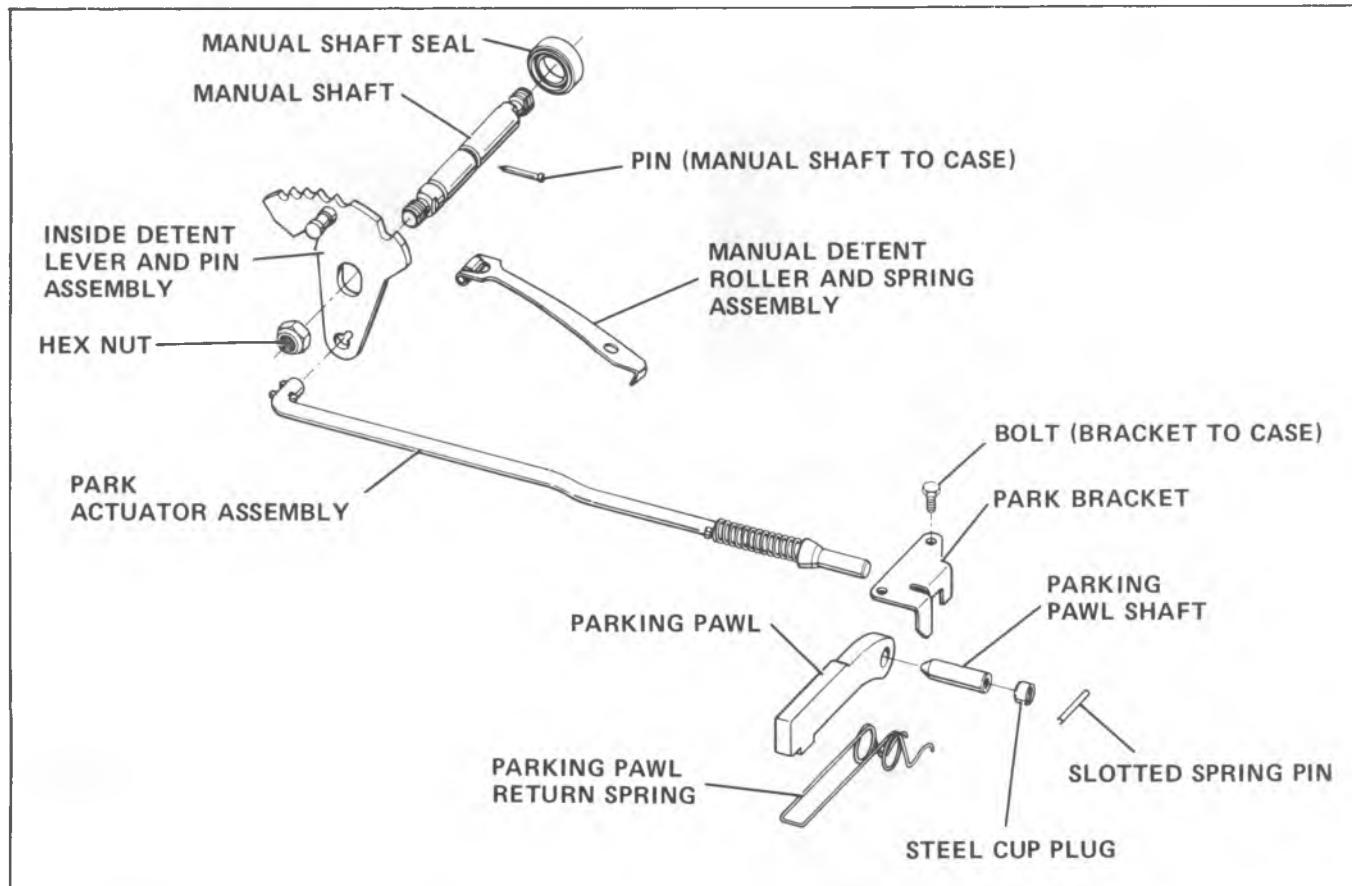

Fig. 7A-52A--Manual Shaft and Parking Shaft Parts
10. Install parking actuator rod and inside detent lever with detent lever pin toward center of transmission and actuator plunger between parking pawl and parking bracket (Fig. 7A-56A).